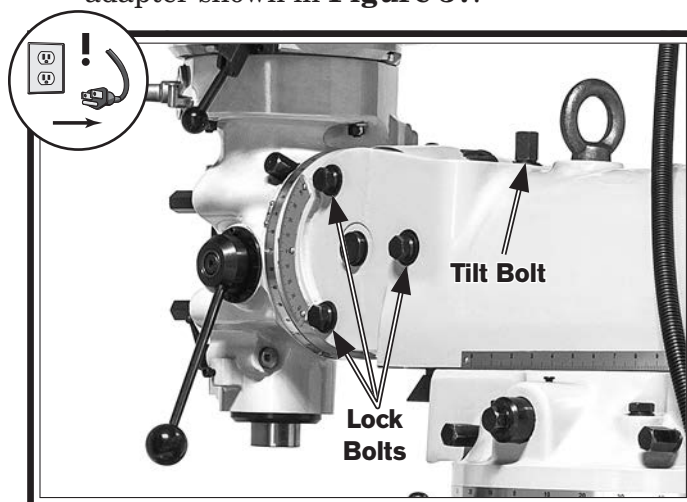

Figure 37. Head tilting controls.
2. Loosen (3) tilt lock bolts on right side of ram adapter shown in Figure 37.